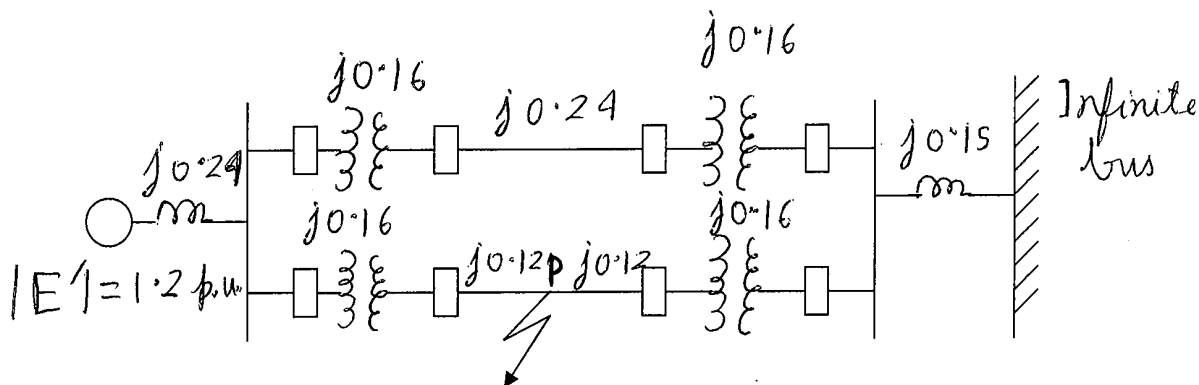

Fig. 5
b) Two power systems A and B each having a regulation (R) of 0.05 pu on their respective capacity bases and a stiffness (damping co-efficient) of 0.75 pu are connected through a tie-line, initially carrying no power. The capacity of system A is 2000 MW and that of system B is 3000 MW. If there is an increase in load of 200 MW in system A, what is the change in steady state and power transfer. 10
5. Find the critical clearing angle for the system shown in Fig. 5 for a three-phase fault at the point P. The generator is delivering 1.0 p.u. power under prefault condition. 20